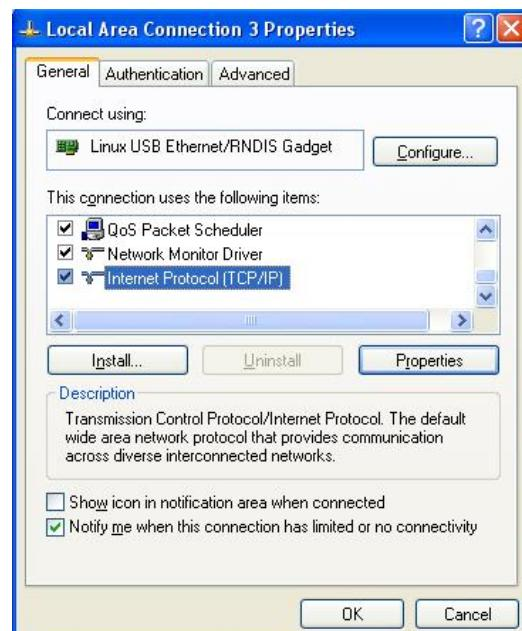

FIG. 31 Local Area Connection 3 Properties
4. In the Local Area Connection 3 Properties window (FIG. 31) under the **General** tab, select *Internet Protocol (TCP/IP)* and click on **Properties**.